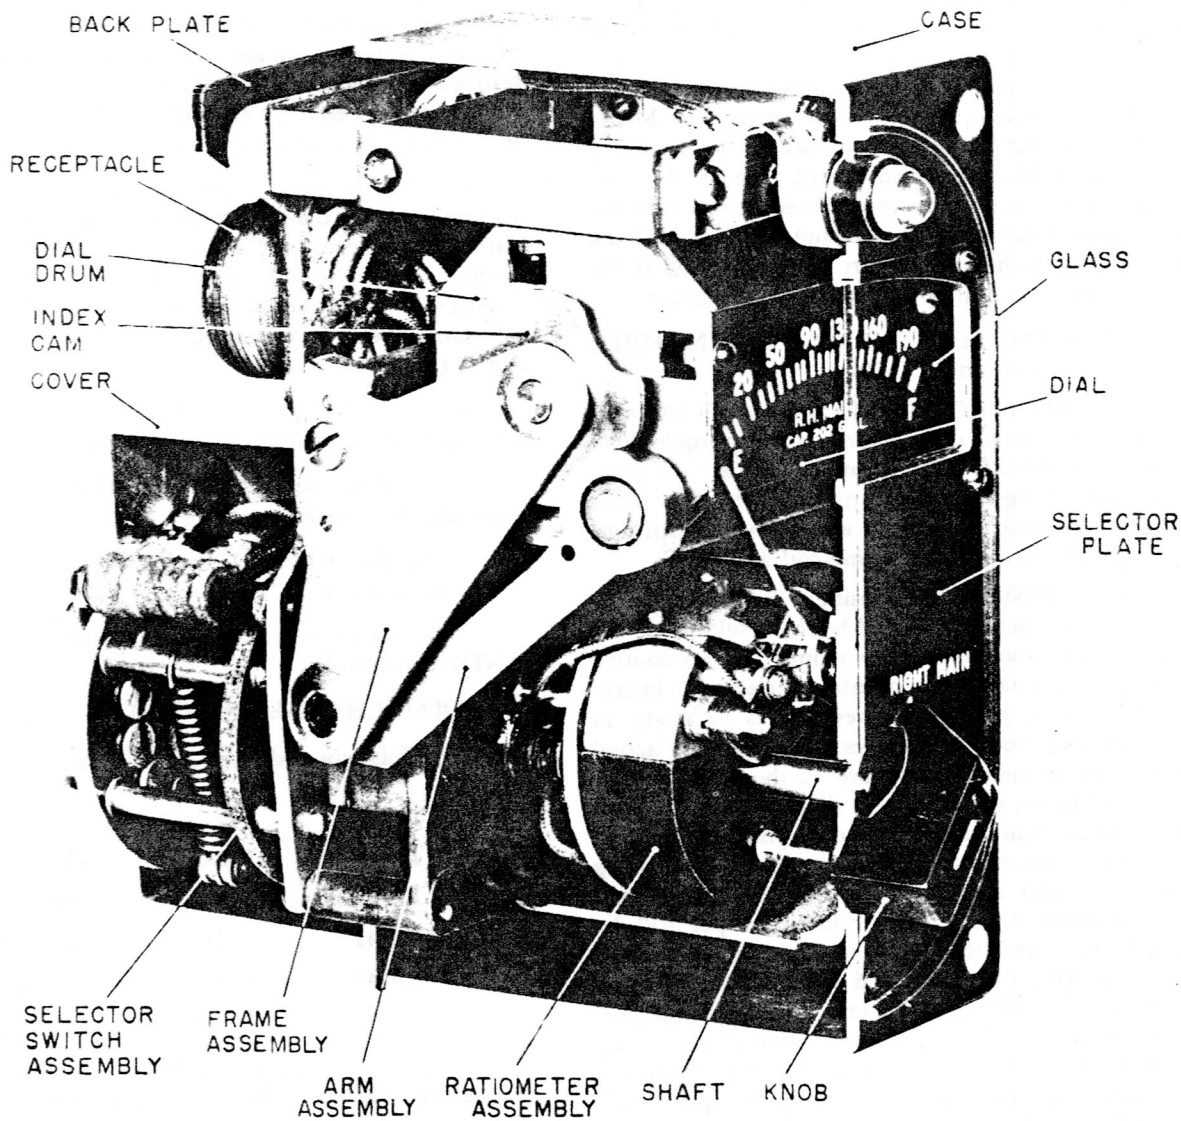

Figure 37—Cutaway View of Dial Change Indicator
(3) Figure 37 shows the mechanical arrangement of the Dial Change Indicator and Selector Switch Combination Unit. It will be noted that the knob is connected to a shaft which extends through the Selector Switch. Attached to the shaft is a worm gear which in turn is attached to a shaft that supports a spur gear that